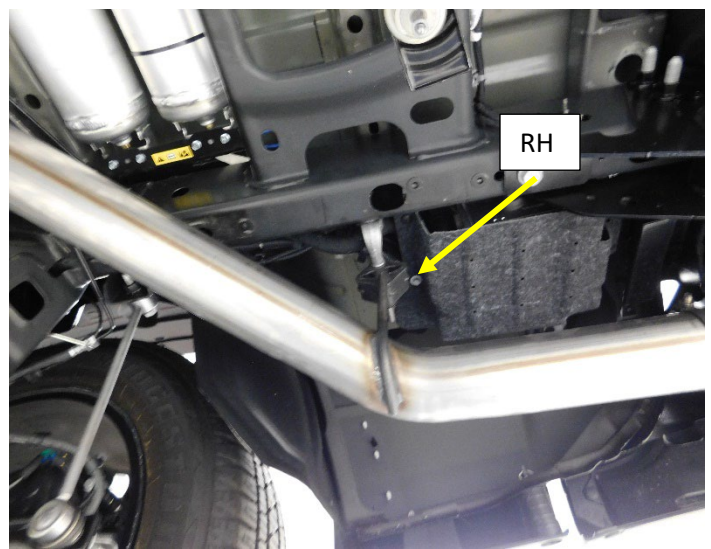

Figure.12
16. Install the rear tail pipe hanger rod (RH) into the isolator at the rear of the frame. **Fig12**